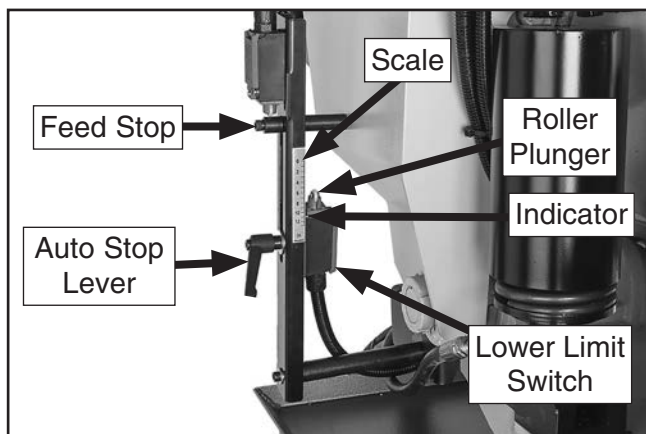

Figure 89. Lower limit switch controls.
7. Loosen auto stop lever (see **Figure 89**), adjust lower limit switch until white indicator aligns with approximate cutting height marked in inches on scale.